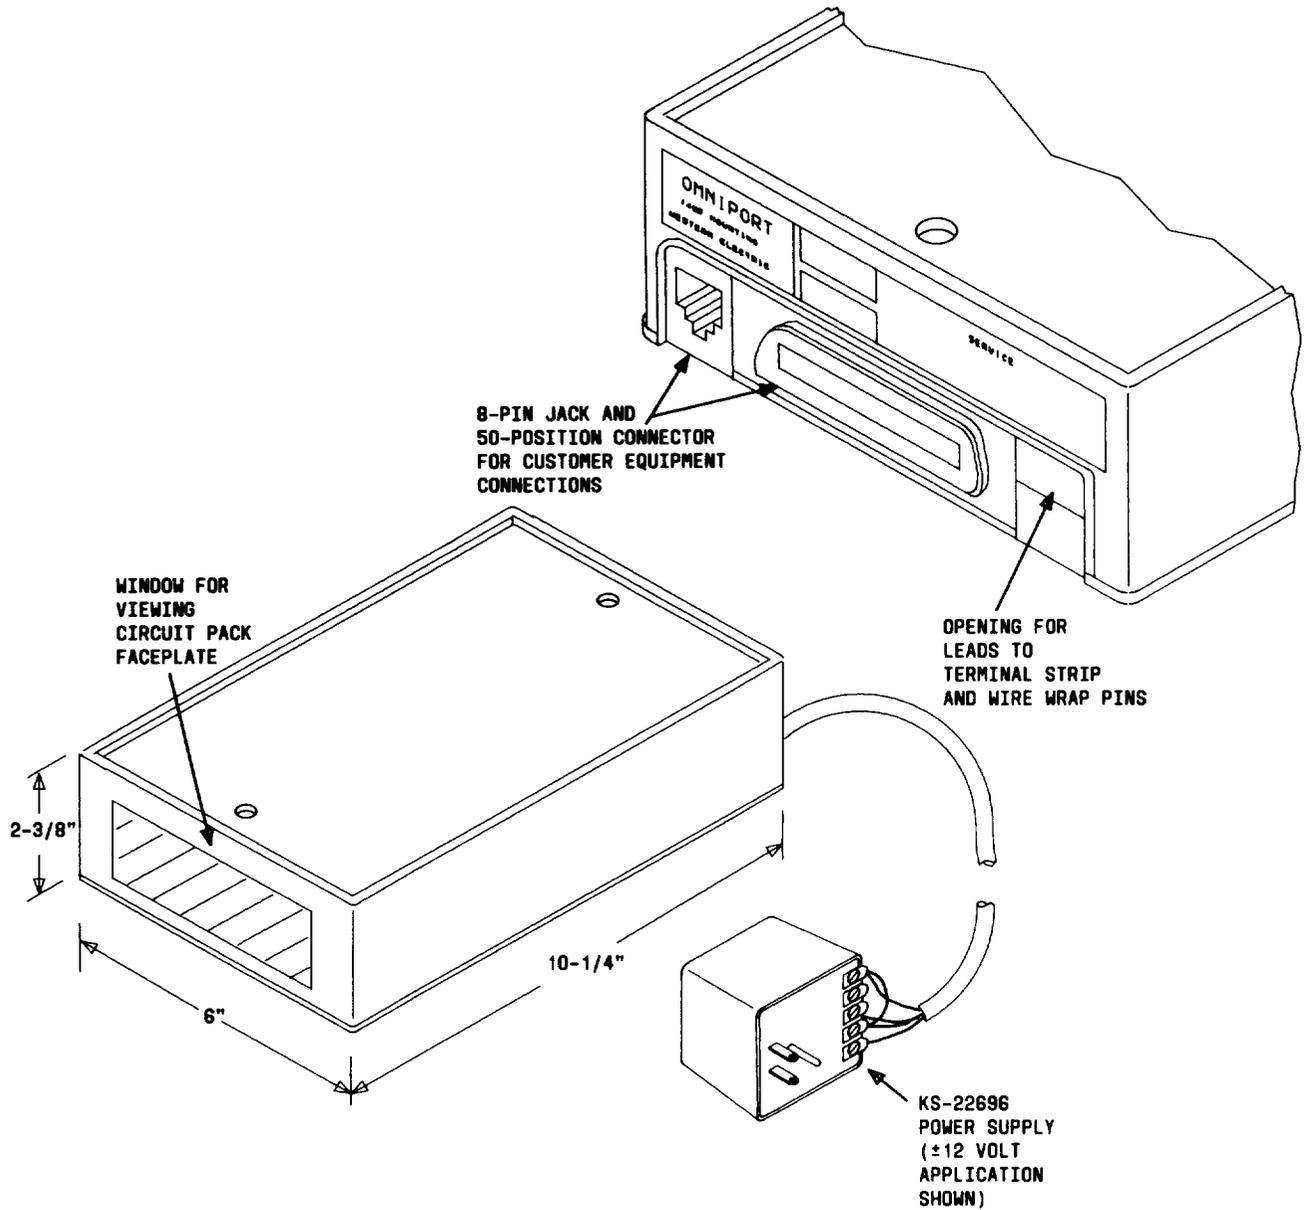

Fig. 1 — 146B Mounting and KS-22696 Power Supply (±12 Volt Application Shown)
3.01 The 146B mounting shown in Fig. 1 consists of a formed metal base and a molded plastic cover. The mounting is 2-3/8 inches high, 6 inches wide, 10-1/4 inches long, and weighs 1-1/4 pounds. Keyhole slots are provided on the unit base for wall mounting, or the unit can be mounted on a desk or shelf.